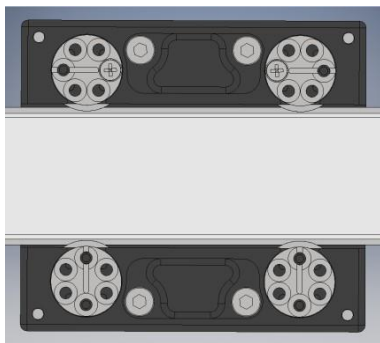

Figure 2: Initial Position, Top tightened 90
- 1) Once the Carriage is mounted on the rail with the new bearings installed, turn the two Bearing on one side of the Front Extrusion Assembly so that they are pointed inward (Figure 2, lower Bearing Cams). This position pulls the bearing as far away from the guide rails as possible into the home position.
- 2) Turn the other two Bearing Cams so that the slots point straight long the rail. This is the half-engaged position. Insert one of the M2.5x8 FHPH screws into both Bearing Cams (Figure 2, upper Bearing Cams).